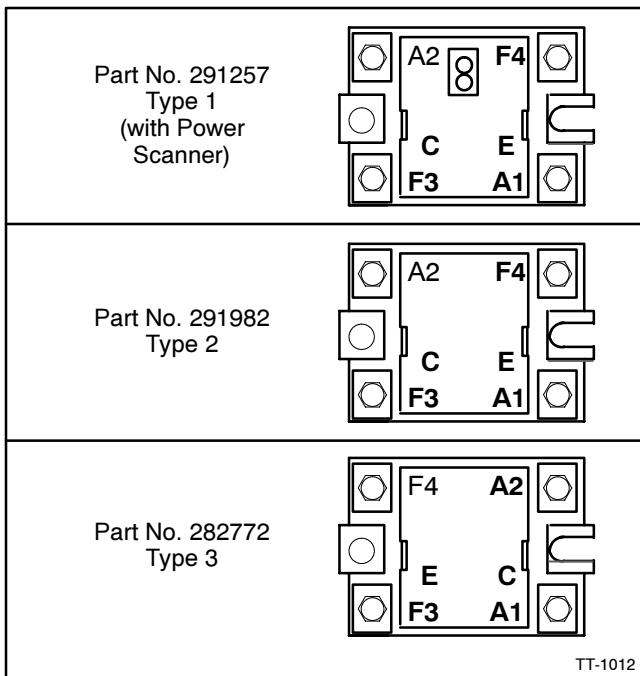

Figure 2 FR™ Activator Variations
Note: Terminals E and C were reversed on earlier versions of the FR™ activator. See Figure 2.
Note: Terminals F4 and A2 were reversed on earlier versions of the FR™ activator. See Figure 2. Connect leads to terminal with the same terminal designation regardless of the terminal position.
16. Before removing FR™ activator compare terminals with new SCR assembly. The leads may not reach SCR assembly terminals if mounted incorrectly. See Figure 2 for variations of the FR™ activator.